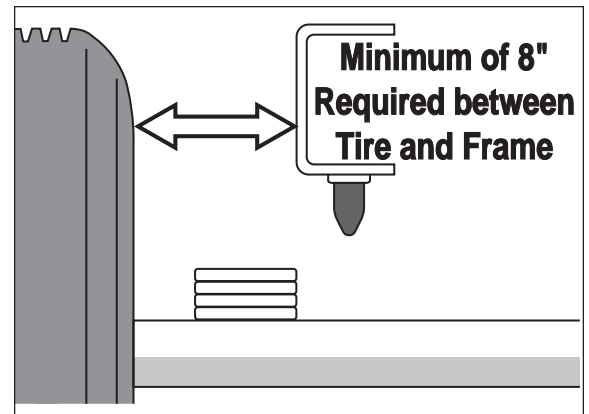
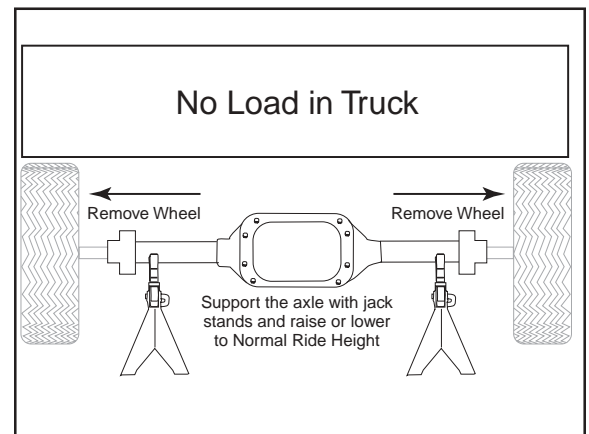

Figure 2
Figure 3
1. Raise the vehicle, remove the wheels, and obtain normal ride height (Figure 2, Figure 3).
If the vehicle has a rough and harsh ride it may be due to either too much pressure or not enough (fig. 2). Try different pressures to determine the best ride comfort.
Stability translates into safety and should be the priority, meaning the driver may need to sacrifice a perfectly level and comfortable ride. Stability issues include roll control, bounce, dive during braking and sponginess (fig. 3). Tuning out these problems usually requires an increase in pressure.